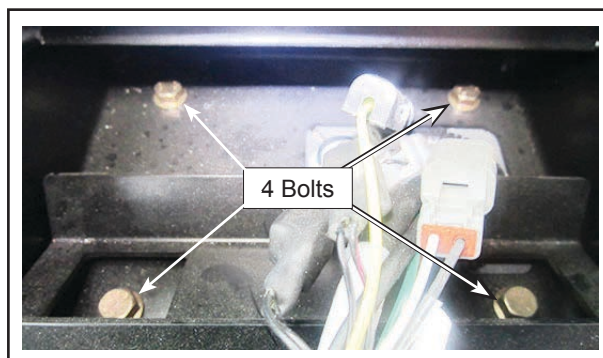

Figure 2 - Bolts in the "Farebox Radio"
- 1.2. Remove the Farebox radio (four bolts). See Figure 2.